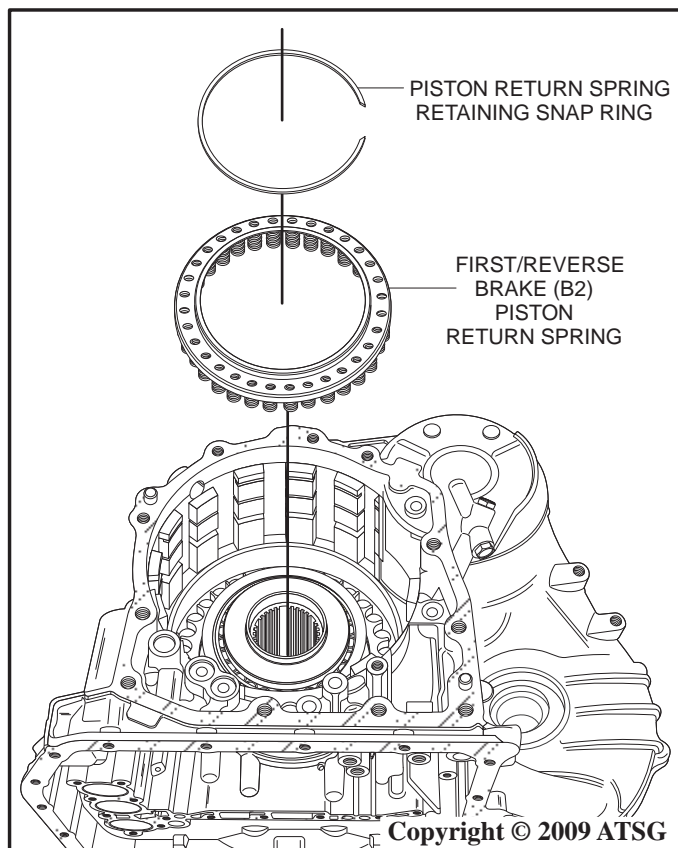

Figure 148
8. Install the piston return spring into the piston as shown in Figure 148.
9. Using SST 09387-00070 or similar, and a press, compress the piston return spring and install the retaining snap ring as shown in Figure 148.